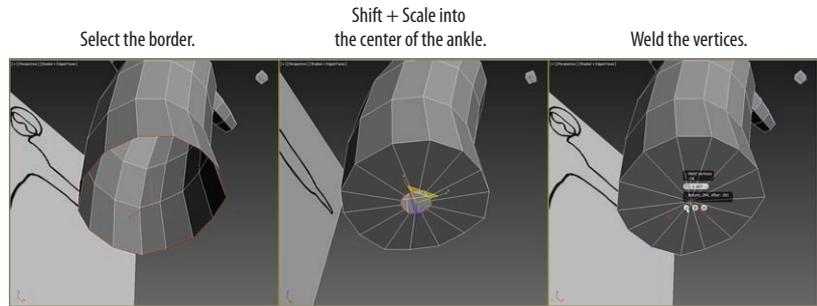

FIGURE 7.29 Closing the ankle's hole
21. In Border mode, select the ankle border, as shown in Figure 7.29 (left) and Shift+Scale the border down on the Z- and Y-axis and in toward the center of the ankle, leaving a small hole, as shown in Figure 7.29 (middle).
22. Then switch to Vertex mode, select the vertices around the resulting small hole, and use Weld (Graphite Modeling Tools tab > Vertices > Weld > Weld Settings) to bring the vertices together, as shown in Figure 7.29 (right).